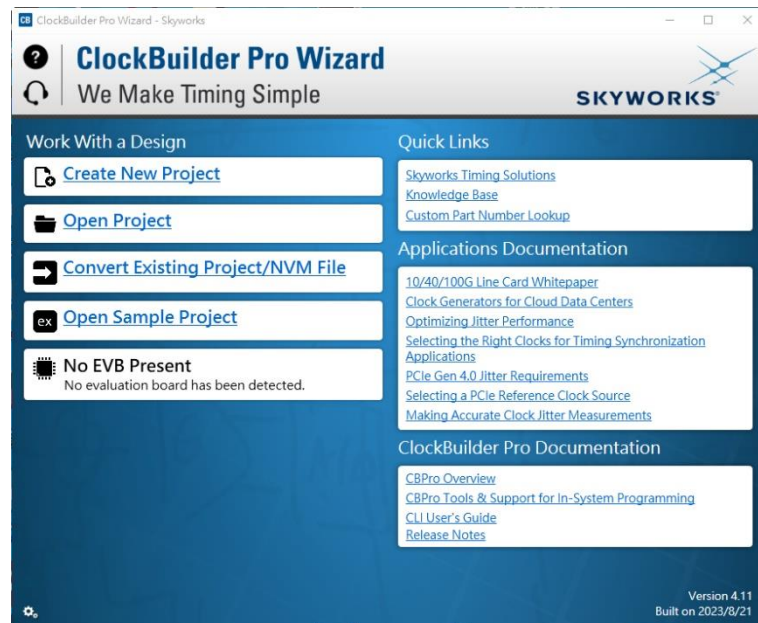

Figure 2-10 ClockBuilder Pro Wizard
1. Firstly, download ClockBuilder Pro Software (See **Figure 2-10**), which is provided by SKYWORKS. This tool can help users to set the Si5340B's output frequency of each channel through the GUI interface, and it will automatically calculate the Register parameters required for each frequency. ClockBuilder Pro 4.11 is recommended. The tool download link: